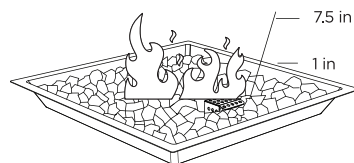

Figure 3
5. Adjust the flame to the desired height with the gas control knob. Visually check the burner flames as picture below (Figure 3).